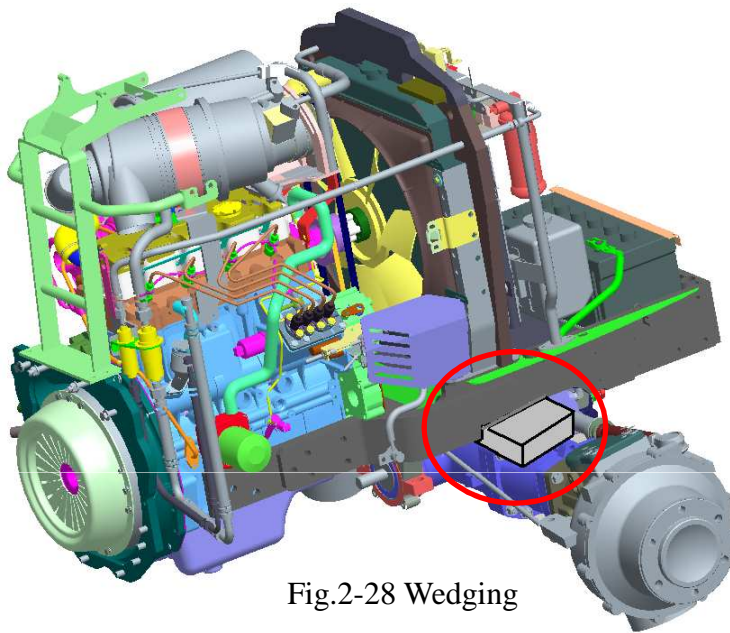

Fig.2-28 Wedging
- 2) Wedge both sides of the front axle to prevent the engine from tilting (Refer to the Fig 2-28 in the workshop manual)